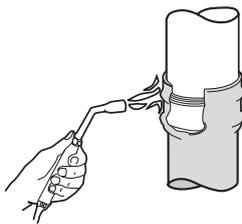

Fig.40b Heating joint
Step 3 – Heat gently with a gas torch/hot air gun (Fig.40b), all round the socket starting at the base of the socket and working upwards